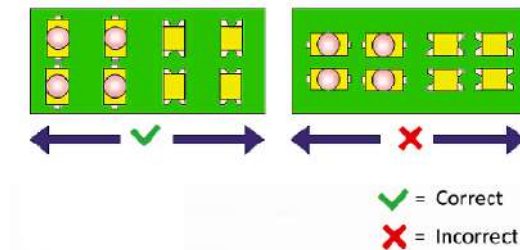

Fig. 11
6. Mounting direction of SMD components should be placed perpendicular to the direction of PCB travel. This will ensure the solder wets on each lead simultaneously during reflow and prevent shifting of LEDs. Refer to below diagram (Fig.11) for examples of recommended mounting direction.